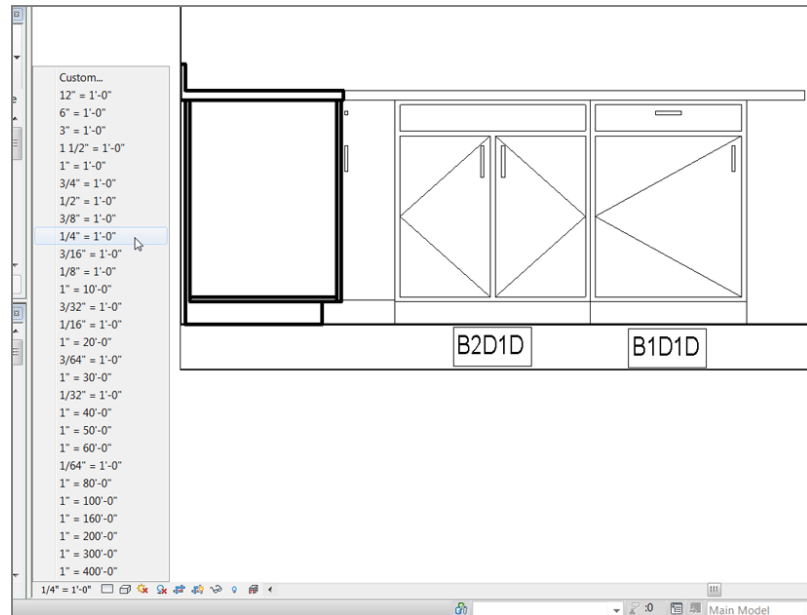

FIGURE 11.79: Changing the scale and adding a second tag to the base cabinets
1. On the View Control toolbar, change the scale from 1/8" = 1'-0" (1:100mm) to 1/4" = 1'-0" (1:50mm), as shown in Figure 11.79.
4. Call it B1D1D (see Figure 11.79).